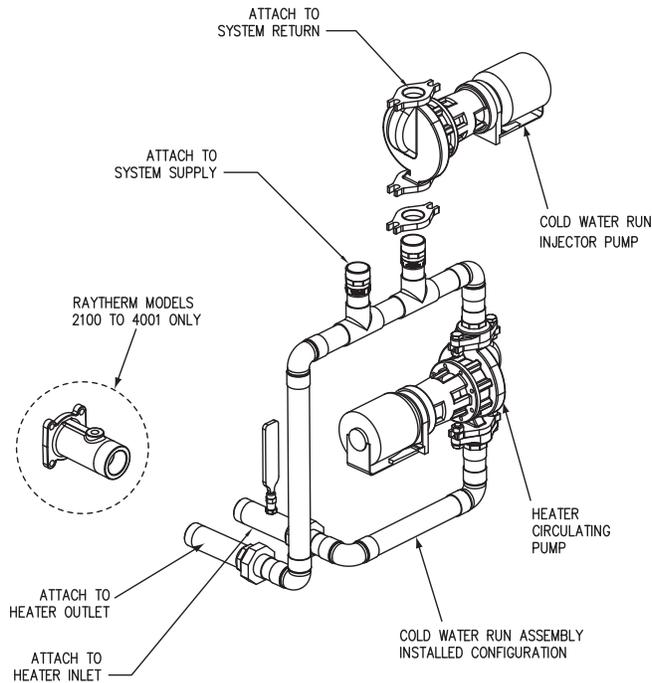

Fig. 29: Cold Water Run Assembly
**NOTE:** After testing at the factory it may be prudent to ship the piping assembly disassembled and attached to the heater pallet. This is done to avoid shipping damage and it must be reassembled on the jobsite. Use Fig. 29 to assist you in reassembling the piping.